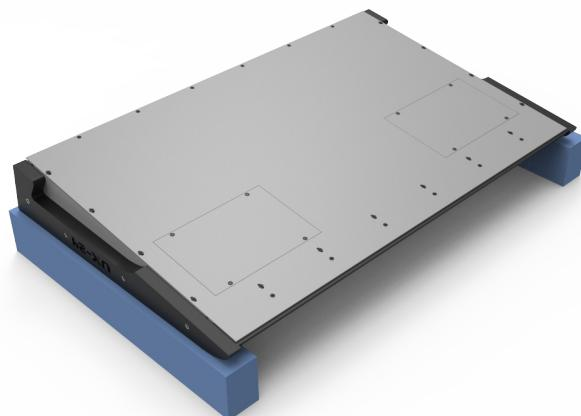

Figure 3: Support blocks under the sides
1. Remove the bottom base from the cabinet. To do this, support the console on its sides, with the base upwards. Use supports under the sides, made of expanded polyurethane or similar material and with a height of no less than 5 cm (see Figure 3 in *Fader's replacement*).